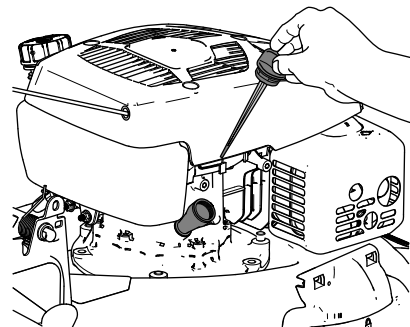

Figure 26
3. Remove the dipstick by rotating the cap counterclockwise and pulling it out (Figure 26).
4. Tip the machine onto its side (so that the air filter is up) to drain the used oil from the oil-fill tube (Figure 26).